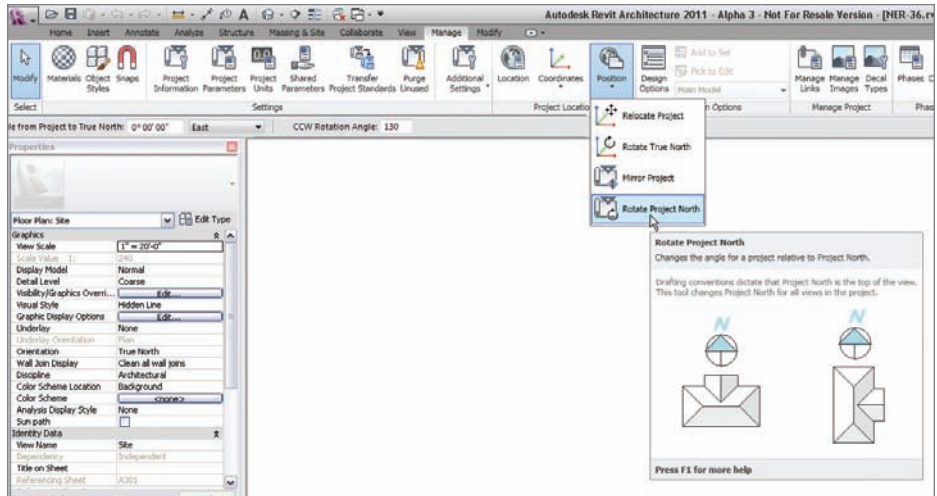

FIGURE 18.30 Rotating the site
4. In the Options bar, type 130 for the CCW Rotation Angle value, as shown in Figure 18.30.